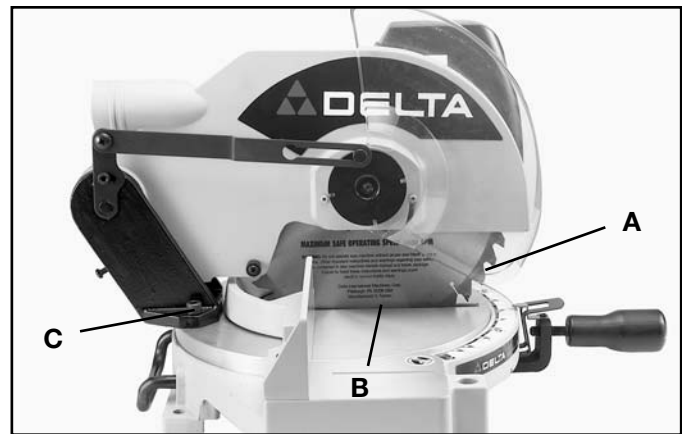

Fig. 20
2. Lower the cuttinghead and check to see if the saw blade (A) Fig. 20, is parallel to the left edge (B) of the table opening.
3. If an adjustment is necessary, loosen two screws, one of which is shown at (C) Fig. 20, and move the cuttinghead until the blade (A) is parallel with the left edge (B) of the table opening. Then tighten two screws (C).